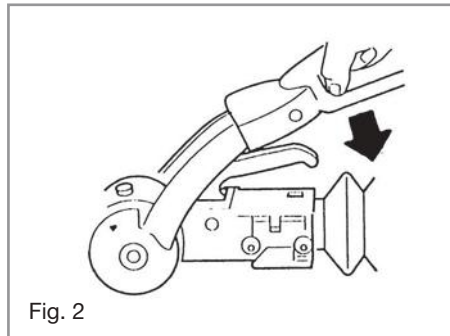

Fig. 2
- Press the red stabilising lever down. The AKS is now ready for the road. **(Fig. 2)**
Or: b) Attach the clip directly to the designated point (Fig.2). This alternative must be specifically permitted by the trailer manufacturer since the clip may not be sufficiently strong for use in this way.